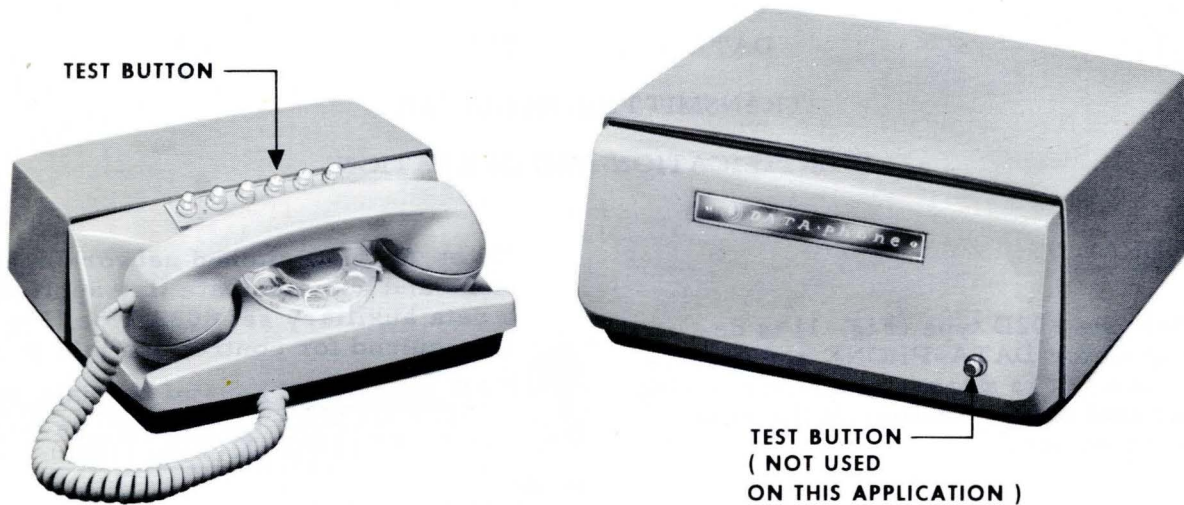

Fig. 2 - Data Set 202D Type with Data Auxiliary Set 804A Type
Note: On all switched network applications and some private line applications a data auxiliary set 804A type (Fig. 2) is required for control and talk purposes.
1.04 The data set TEST button (Fig. 2) is not functional when data auxiliary set 804A type is used.
2.09 A ringer mounted in the data auxiliary set 804A type (Fig. 2) provides audible signals on incoming calls.